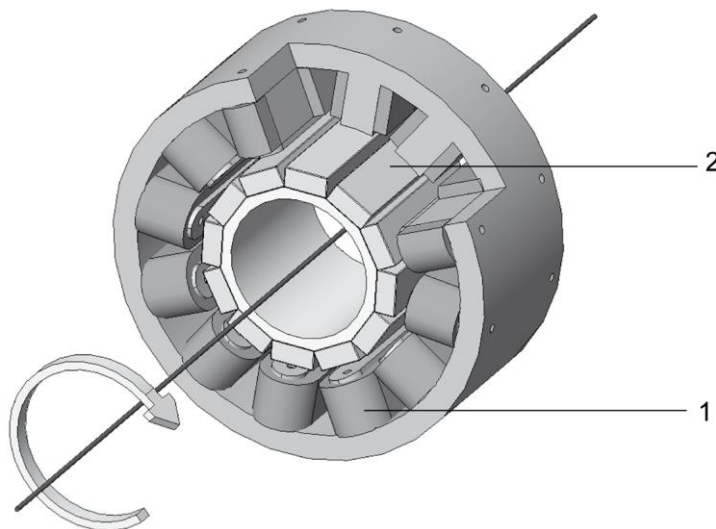

Figure 2: Function of the Gearless Drive (torque motor)
The function of the gearless drive is illustrated in Figure 2. The stator (1) consists of a 3-phase Cu coil. A 3-phase magnetic field is generated within the coil by means of the drive controller. There are permanent magnets on the rotor (2) forcing the rotor to follow the external magnetic field of the stator. In the event of a rotary motion of the magnetic field of the stator, the rotor will rotate in synchronisation with this field.